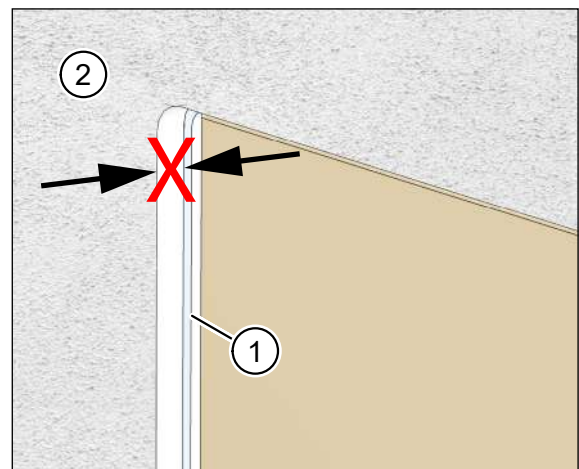

Fig. 32: Plaster protrudes over plastering trim
- The plaster (item 2 in Fig. 32) protrudes above the plastering trim (item 1 in Fig. 32).